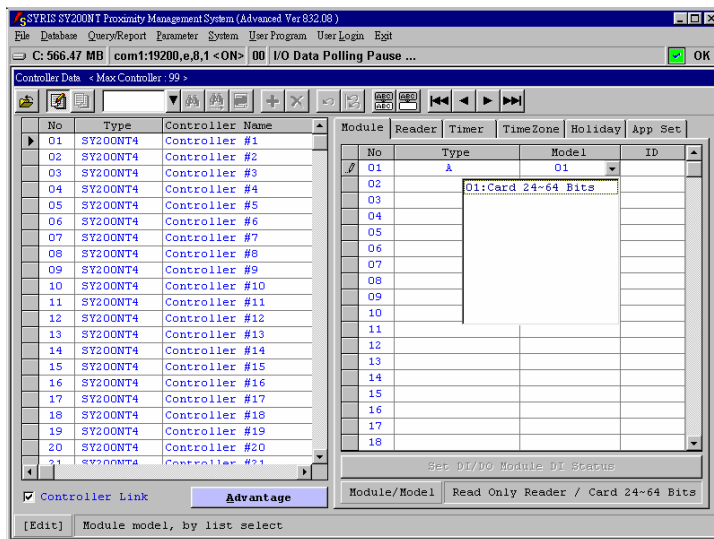

Fig.3-4 Module Model Select
3. Click "Model" column and drop down button to select module model, Fig.3-4.